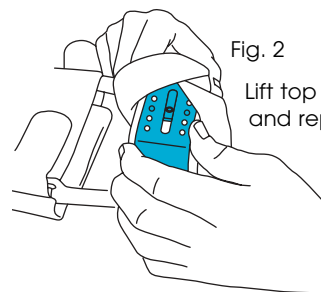

Fig. 2
- Rotate each end bracket 180° (Fig. 2).
- Carefully lift the top portion of the bracket and reposition the silver pins into the desired holes marked by the numbers 1 – 5 (Fig. 2). The pins must be inserted into the same numbered holes on both brackets to ensure that the brace will work properly.